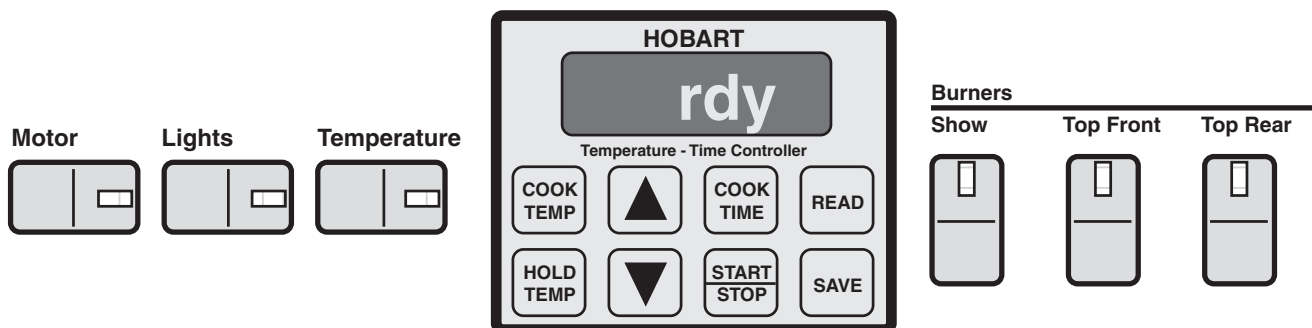

Fig. 28
- Press the Temperature switch on (Fig. 28).